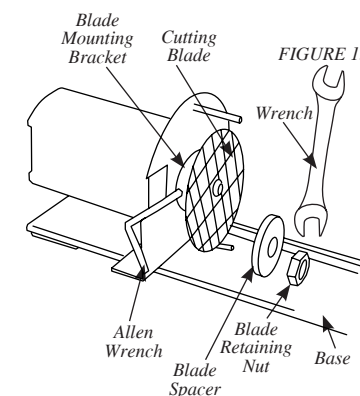

FIGURE 15
5. Insert the long leg of the largest **Allen Wrench** supplied with your **Arrow Saw** into one of the holes in the outer edge of the **Blade Mounting Bracket**. *Figure 15*